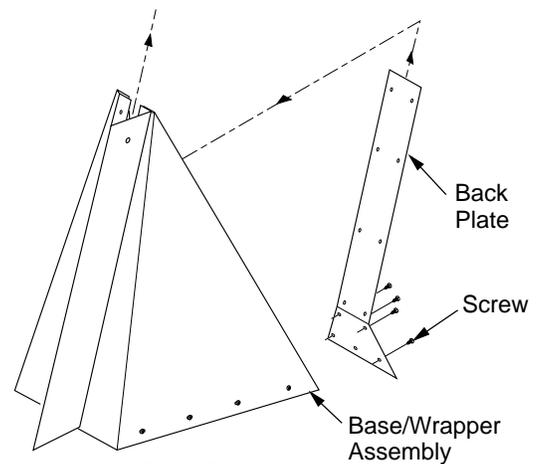

**Figure 2 - Attaching Left and Right Wrappers to Base**
2. Locate right wrapper and left wrapper. Place one side to base and secure using 5 screws provided. Repeat for other side (see Figure 2).